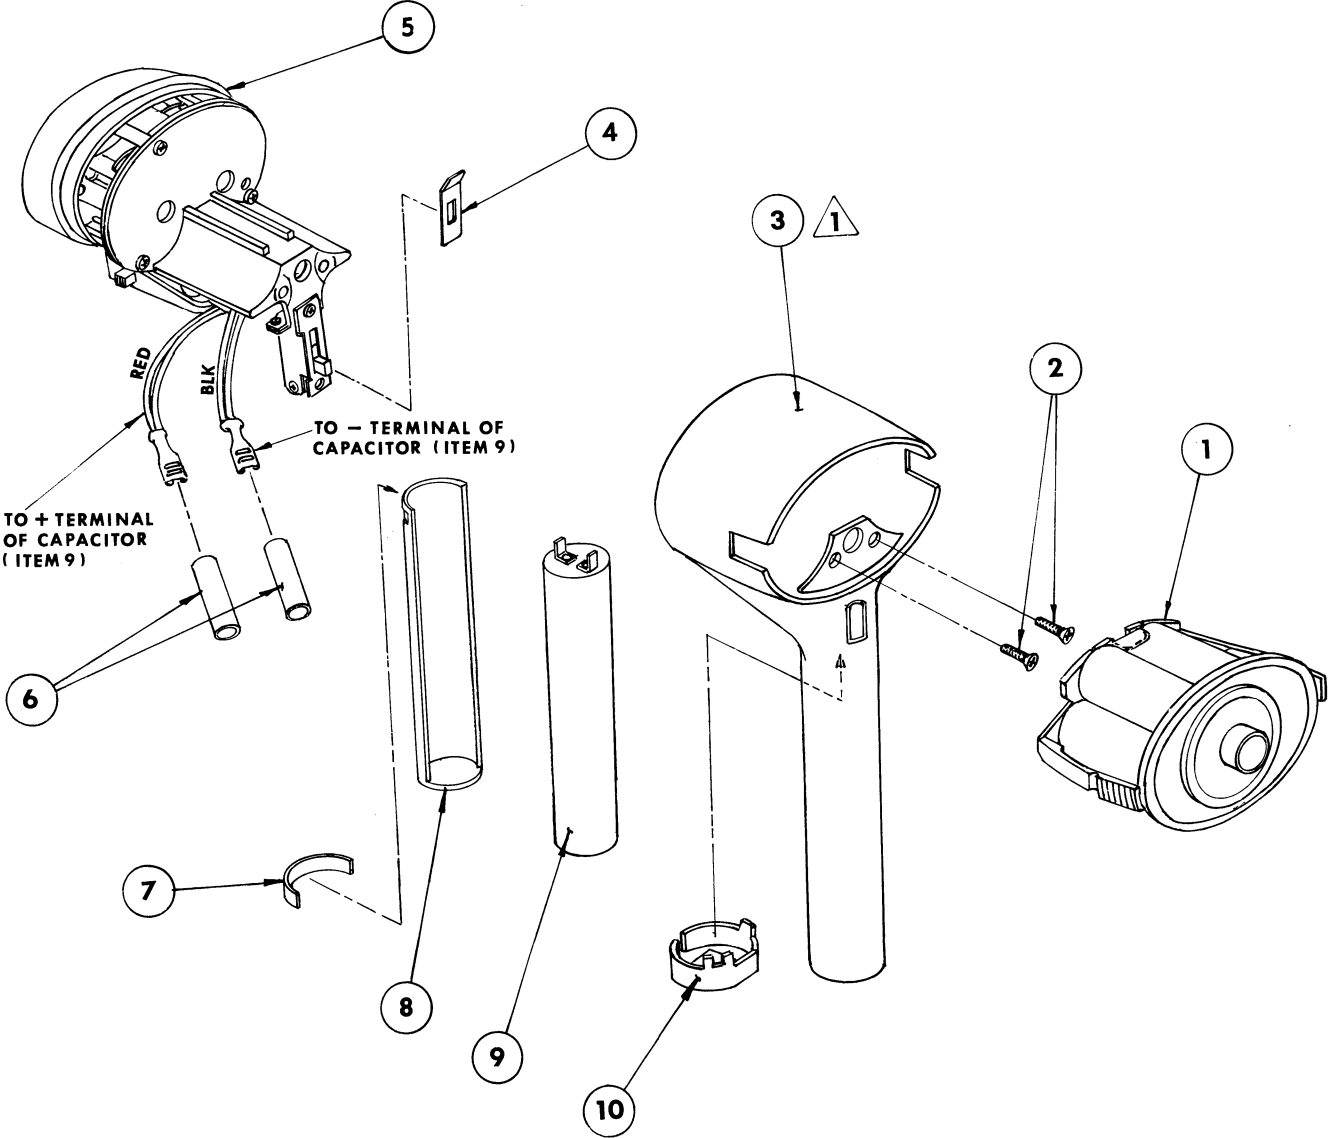

Figure 5-3.
- d. Continue disassembly as required. See Figures 5-3, 5-4 and 5-5.